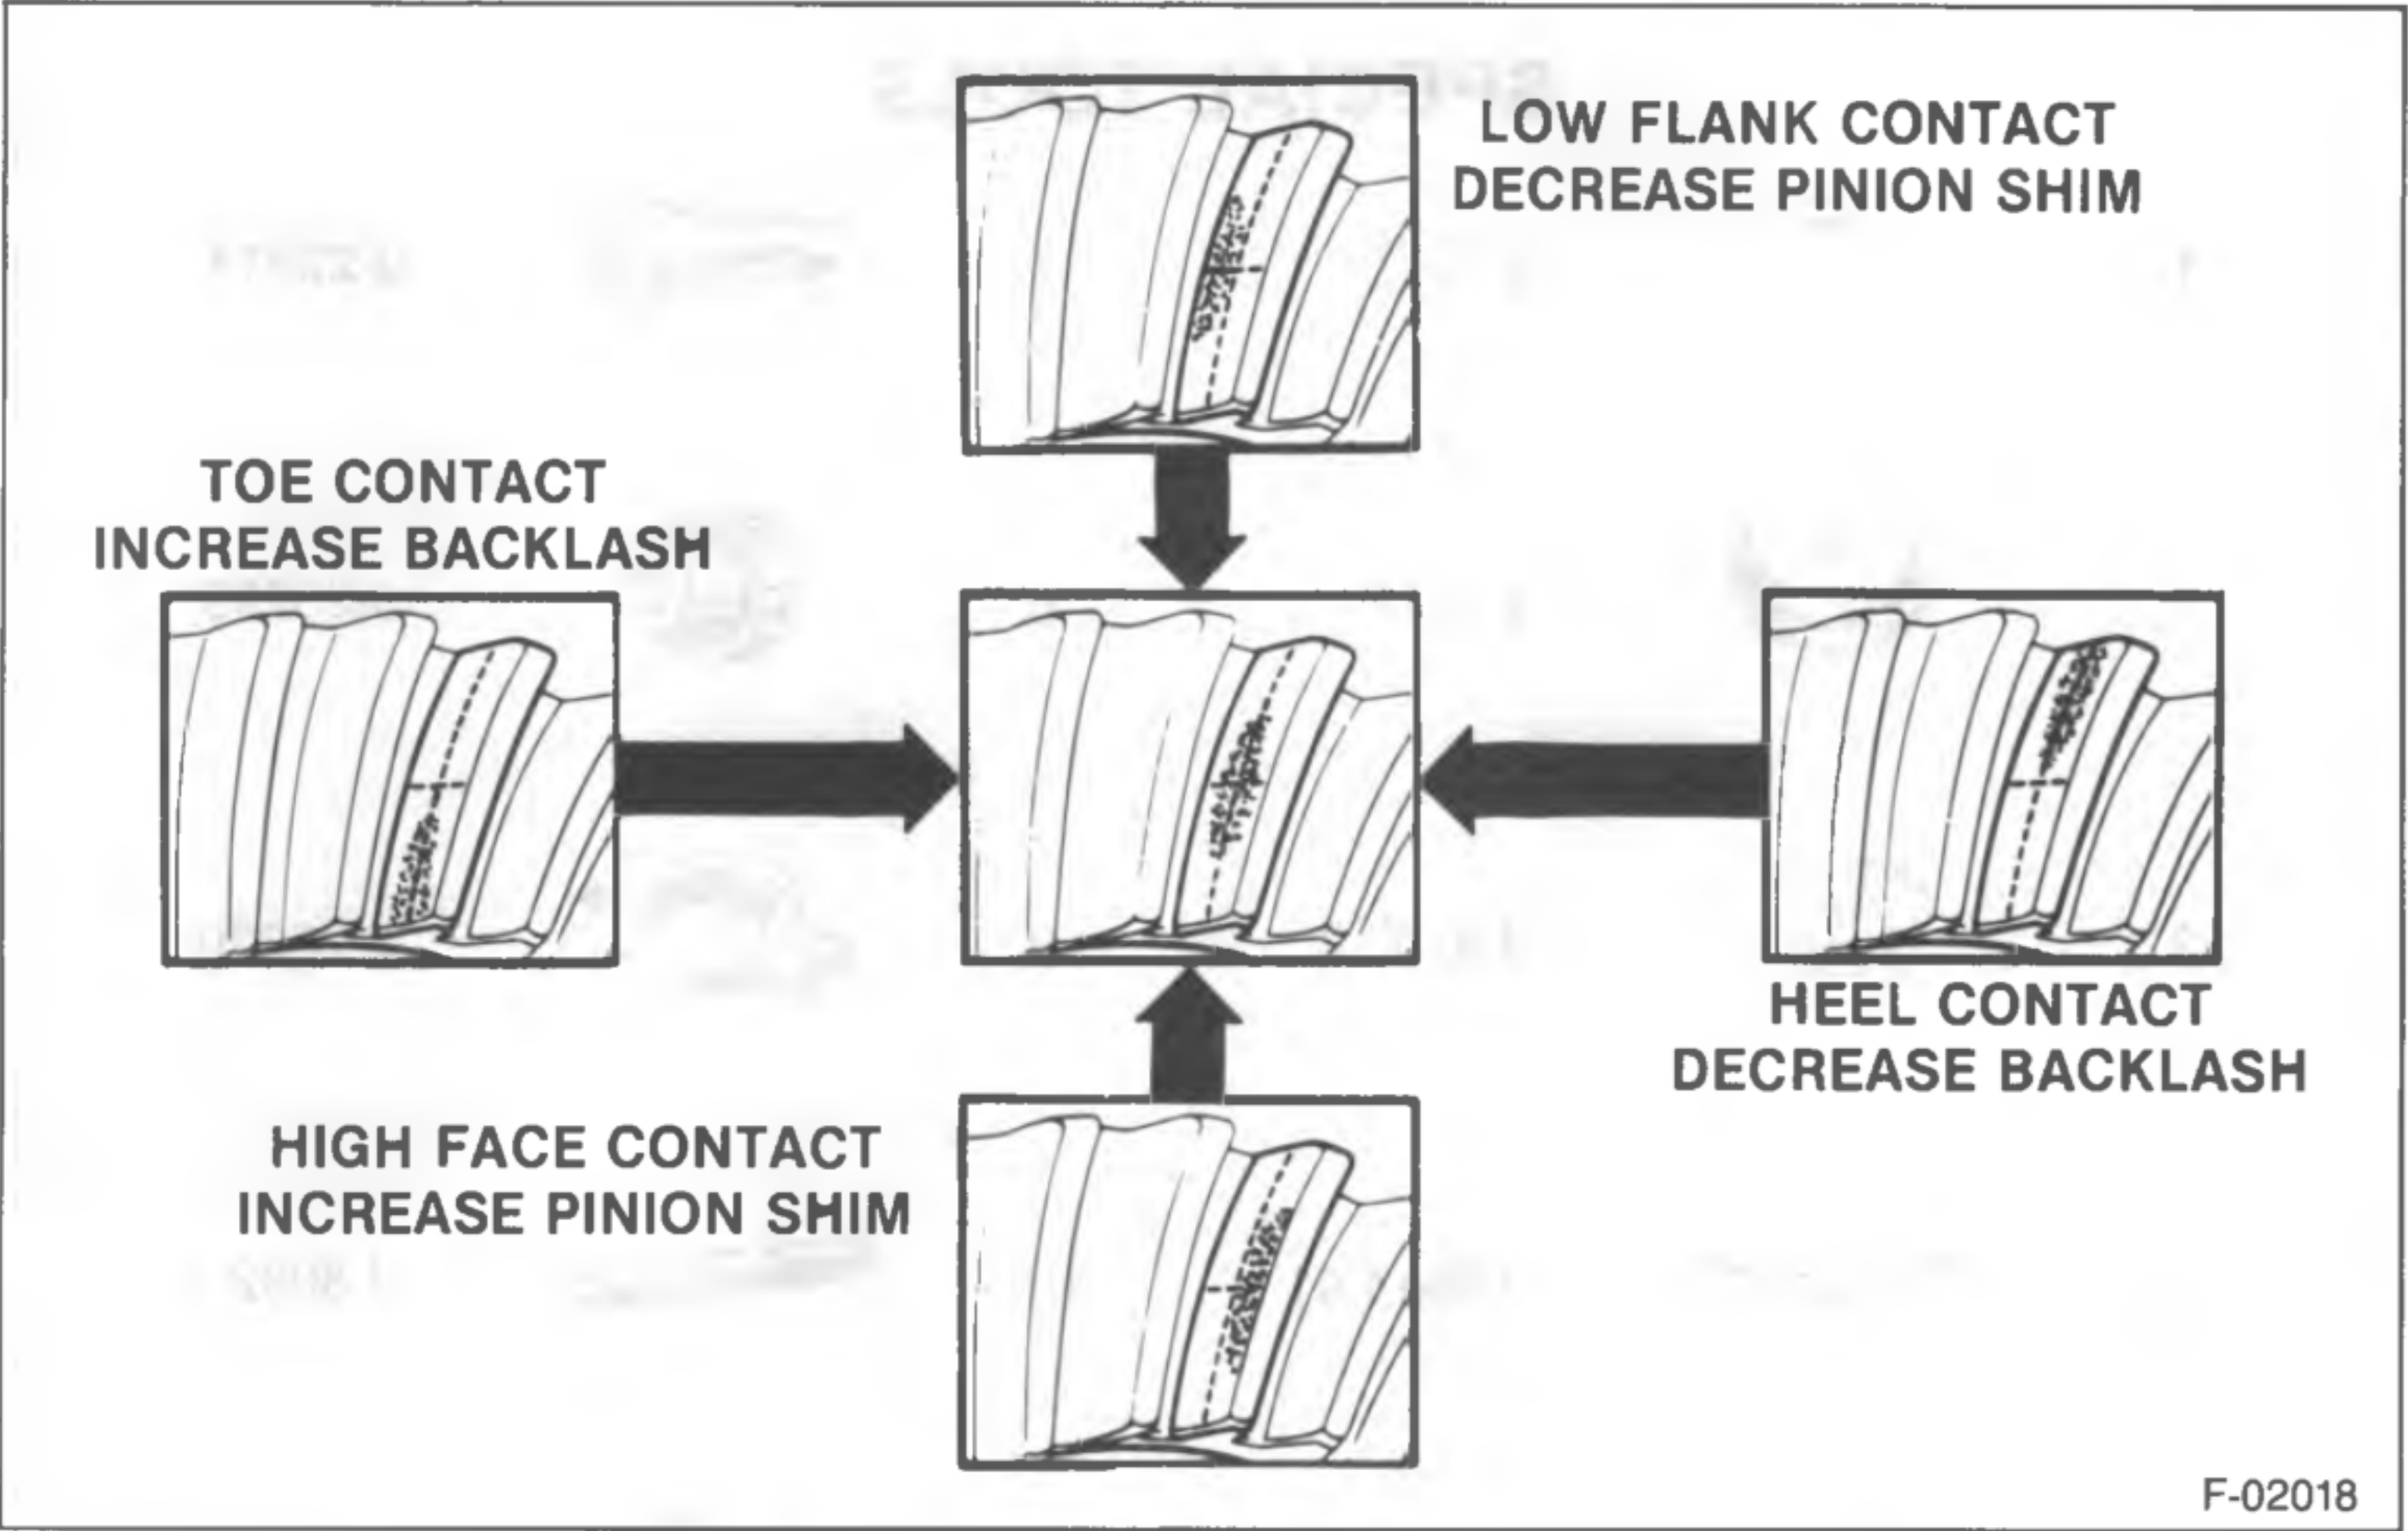

Figure 19—Gear Tooth Pattern
5. Observe the pattern on the ring gear teeth and compare this with figure 19.